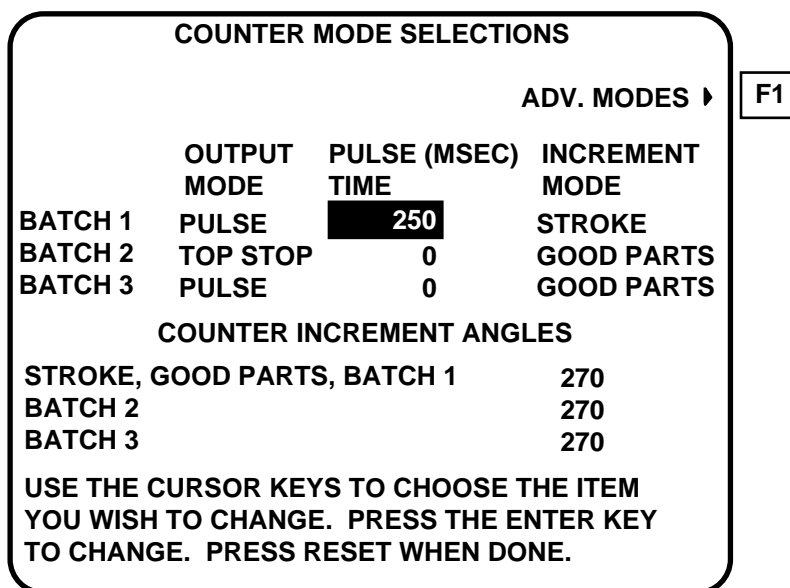

Figure 5-6. Counter setup mode menu
2. Sometimes, you may want to start the count at some value other than zero. As the screen suggests (Figure 5-6), use the number keys to input a value. See "Entering a number" in Chapter 3 for step-by-step instructions for entering a number. Then press Enter, and the value will "jump to" the designated counter value location.